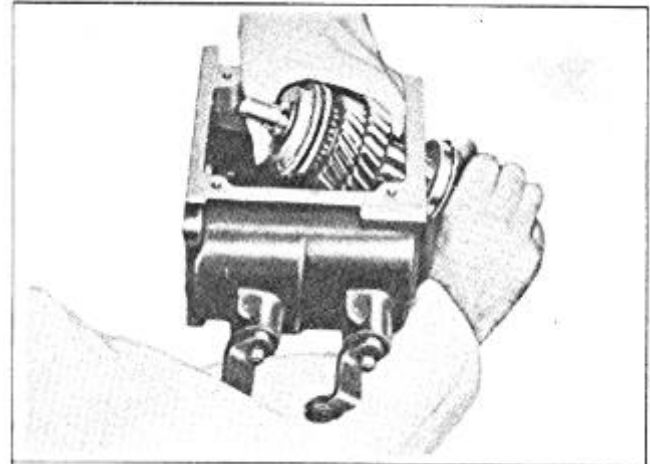

FIGURE 36
14. Holding synchronizer parts and second and low gears together as a unit, move mainshaft to right and disengage shifter fork and shoe from grooves in shifter sleeve and low gear. Twist and withdraw mainshaft through rear of case, Figure 36.